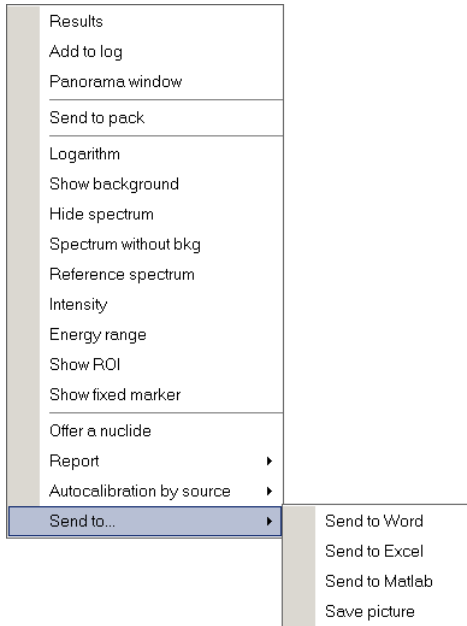
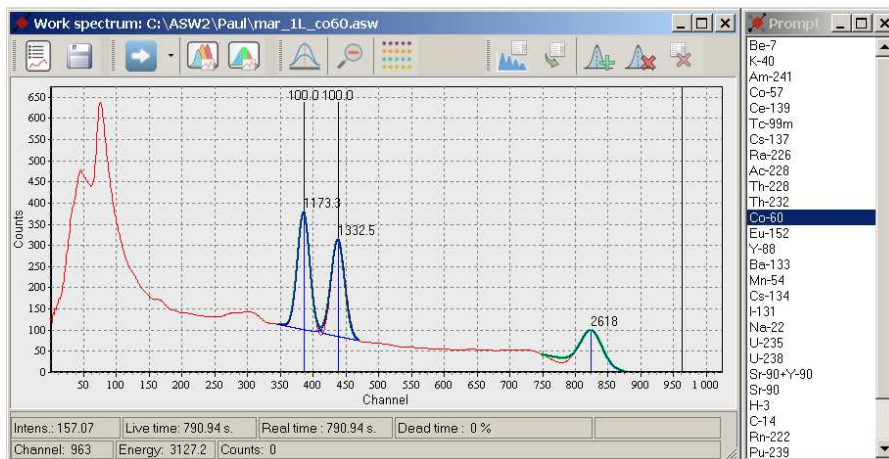

Figure 24. Menu **Options** of the spectrum window
Figure 28
- button displaying a menu with spectrum options. When you press this button, a menu shown on Figure 24 will appear.
Using the **Offer a nuclide** command in the **Options** menu (see section 4.1, Fig.24) in the measured spectrum with distinct peaks, you can visually identify nuclides from the set library of nuclides *librp.dat*. When you activate the **Offer a nuclide** menu item, a **Prompt** window, which will display the list of radionuclides, will appear on the display (see Fig.28).